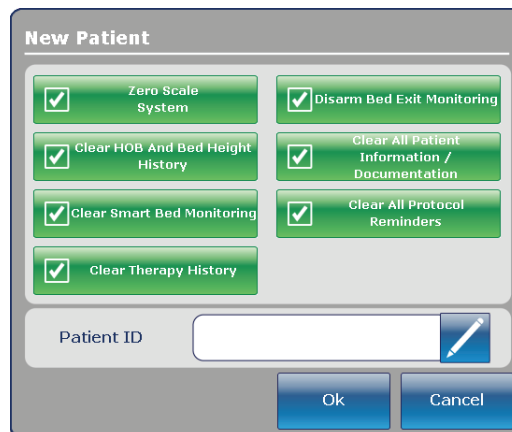

Figure 20: New patient
1. Tap the pencil (Figure 20 on page 41).
Display Patient ID: Displays the Patient ID. You can enter the Patient ID on the **New Patient** screen (Figure 20 on page 41).